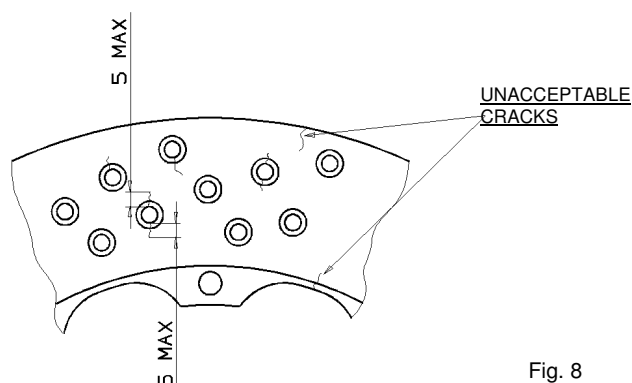

Fig. 8
- on the braking surfaces there are cracks having length higher than 5 mm; in case the crack begins from the external or internal diameter, even if the length is shorter, the disc must be replaced (see Fig. 8).